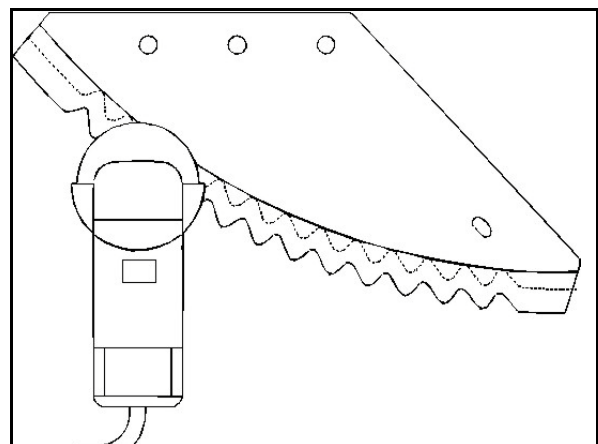

Fig. 40
- Use a flap grinding wheel (Fig. 40) when grinding cutting knives.